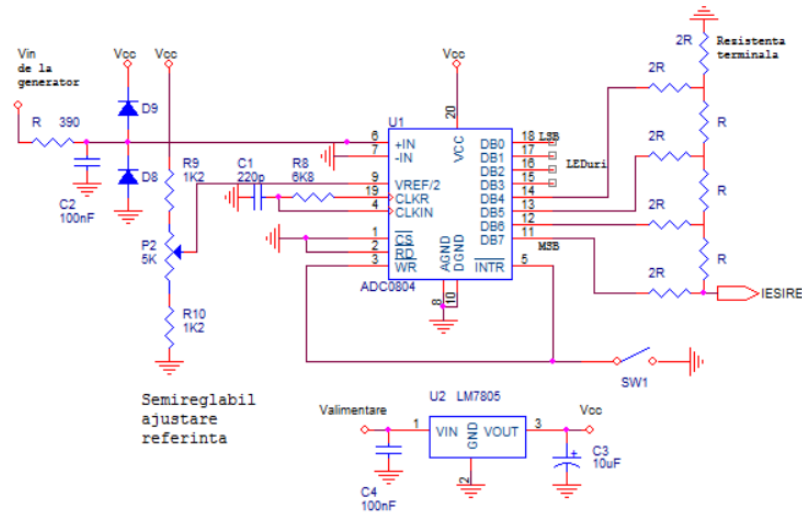
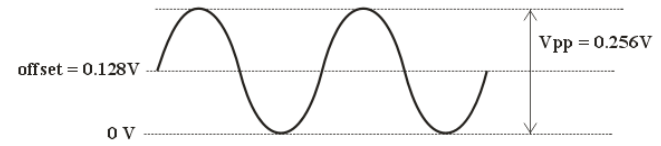

Fig. 5 Connecting the input of the ADC to the generator and the output (only 4 bits) to the input of the R-2R DAC
Fig. 6 Input signal for the ADC-DAC chain.
Create a conversion chain: the generator, the ADC, the DAC and the oscilloscope (fig. 5). Instead of the continuous voltage given by P1 (*steady-state* regime), use a sinusoidal signal from the generator, of frequency 30Hz (*dynamic* regime), that will be digitized by the DAC and converted again to an analog signal, by the ADC. For the ease of measurement, you will use a 4 bit DAC, connected to *the most significant* 4 bits of the existing ADC, so that the voltage resolution is greater (worse) than before.
- Disconnect the most significant 4 bits (pins 11-14, 11 being MSB) from the LEDs and connect them to the inputs of an R-2R DAC, using the white wires, as in the scheme from figure 6.
Verify that the MSB is the one that is the furthest from the terminal resistance 2R from the GND (drawn in the upper right part on the scheme in fig. 6). **Pay attention!** Pins 15-18 stay connected to the LEDs.
computed before, and set the offset to half of this value; this assures us that the signal takes only positive values – it DOES NOT decrease below the 0V level on the scope. You need to obtain a signal which is **completely inside the dynamic range of the 4 bit ADC**, as in fig. 6, otherwise you will not obtain the expected result.
Connect the sinusoidal signal generator, set as before, to the input of the ADC (the green plug connected to the 390Ω resistance – the input will look as in Fig. 5).
Connect the scope to the OUTPUT terminal from the DAC, in fig. 5 (the resistance 2R that is the furthest from the terminal resistance from GND). You should see, at the output of the DAC, a sine approximated by  $2^4=16$  voltage levels, of peak-to-peak value denoted  $V_{FS\text{ DAC}}$ , which is measured using the cursors. **OBS:** if the input signal does not look exactly as in fig. 6, the output signal will not have 16 levels!
**a)** Go back to the frequency of 30Hz on the generator, in order to have 16 steps again. Connect the scope to the **input in the ADC** (the sinusoidal signal of amplitude as in fig. 6) and display a few periods on the screen, making sure that the image does not exceed the upper/lower edge of the screen. Set the scope in FFT mode (**Math Menu → Operation FFT**). Set  $C_x=50Hz/div$ , 10dB/div.
c) Move to a 3 bit DAC. For that, connect the LSB wire of the DAC on 4 bits to GND, instead of connecting it to pin 14 of ADC0804 (DB4) from fig. 5.